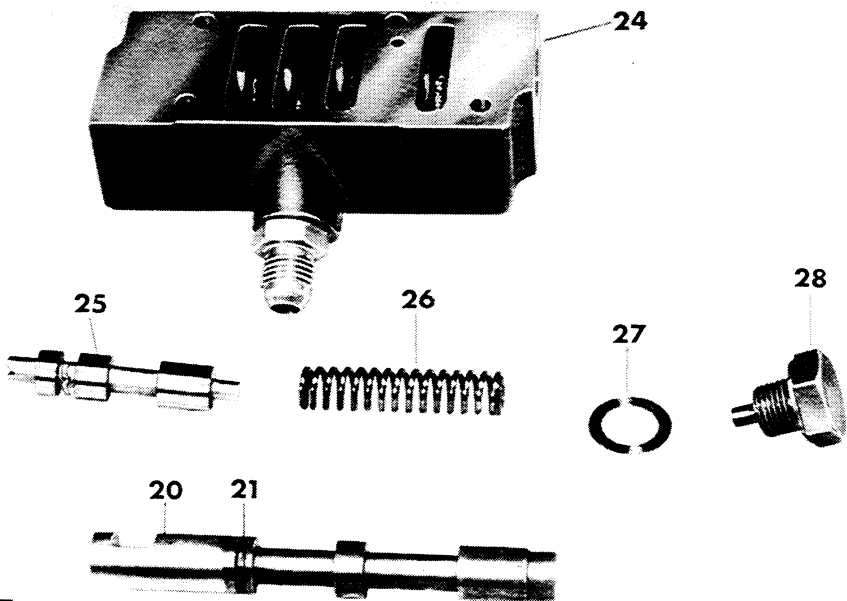

FIG. 25
55. Using a dummy shaft to prevent the needle rollers from falling into the transmission case, remove the reverse gear cluster (110) thrust washers (106 and 111) and distance piece (73).
57. Fig 25. Withdraw the actuating spool (20) from the spool block (24).
58. Remove the screw (28) from the end of the spool block, then withdraw the spring (26) and the spool (25).